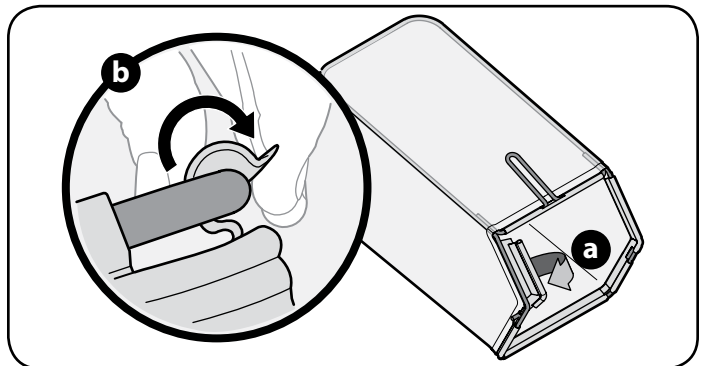

Figure 9
- Slip plastic channel of grass bag over hooks on the frame. See Figure 9.